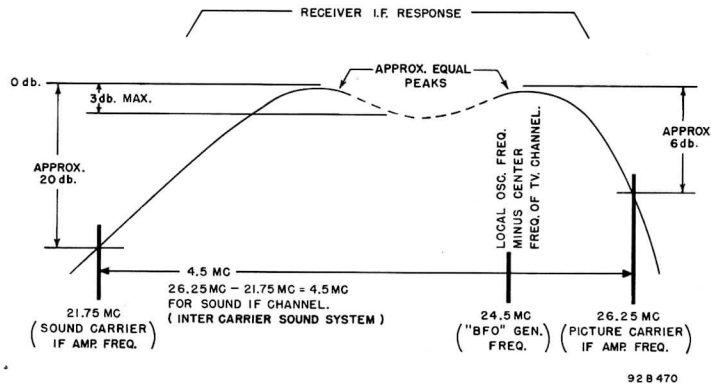

Fig. 12. I-F amplifier response.
5. Check the i-f amplifier frequency response by tuning the signal generator from 21 mc through 26.25 mc and observing the change in d-c voltage at the electronic voltmeter. If the signal generator output is set for an electronic voltmeter reading of 1.5 volts at the peak i-f amplifier response, the d-c voltage should not drop below one volt between the two peaks normally obtained with this i-f amplifier. If the response is unsatisfactory, repeat steps 3 and 4 or try slight modifications of the recommended settings to obtain the desired response. Avoid resonating the coils with the iron core at the bottom end of the coil form. (Adjustment screw near limit of its travel.) Check the two carrier i-f responses, 21.75 mc and 26.25 mc. The 21.75 mc response will be approximately 20 db below the peak response (Approx. 0.15 volt) and the 26.25 mc response will fall approximately 6 db. below the peak (Approx. 0.4 volt). Refer to Fig. 12.